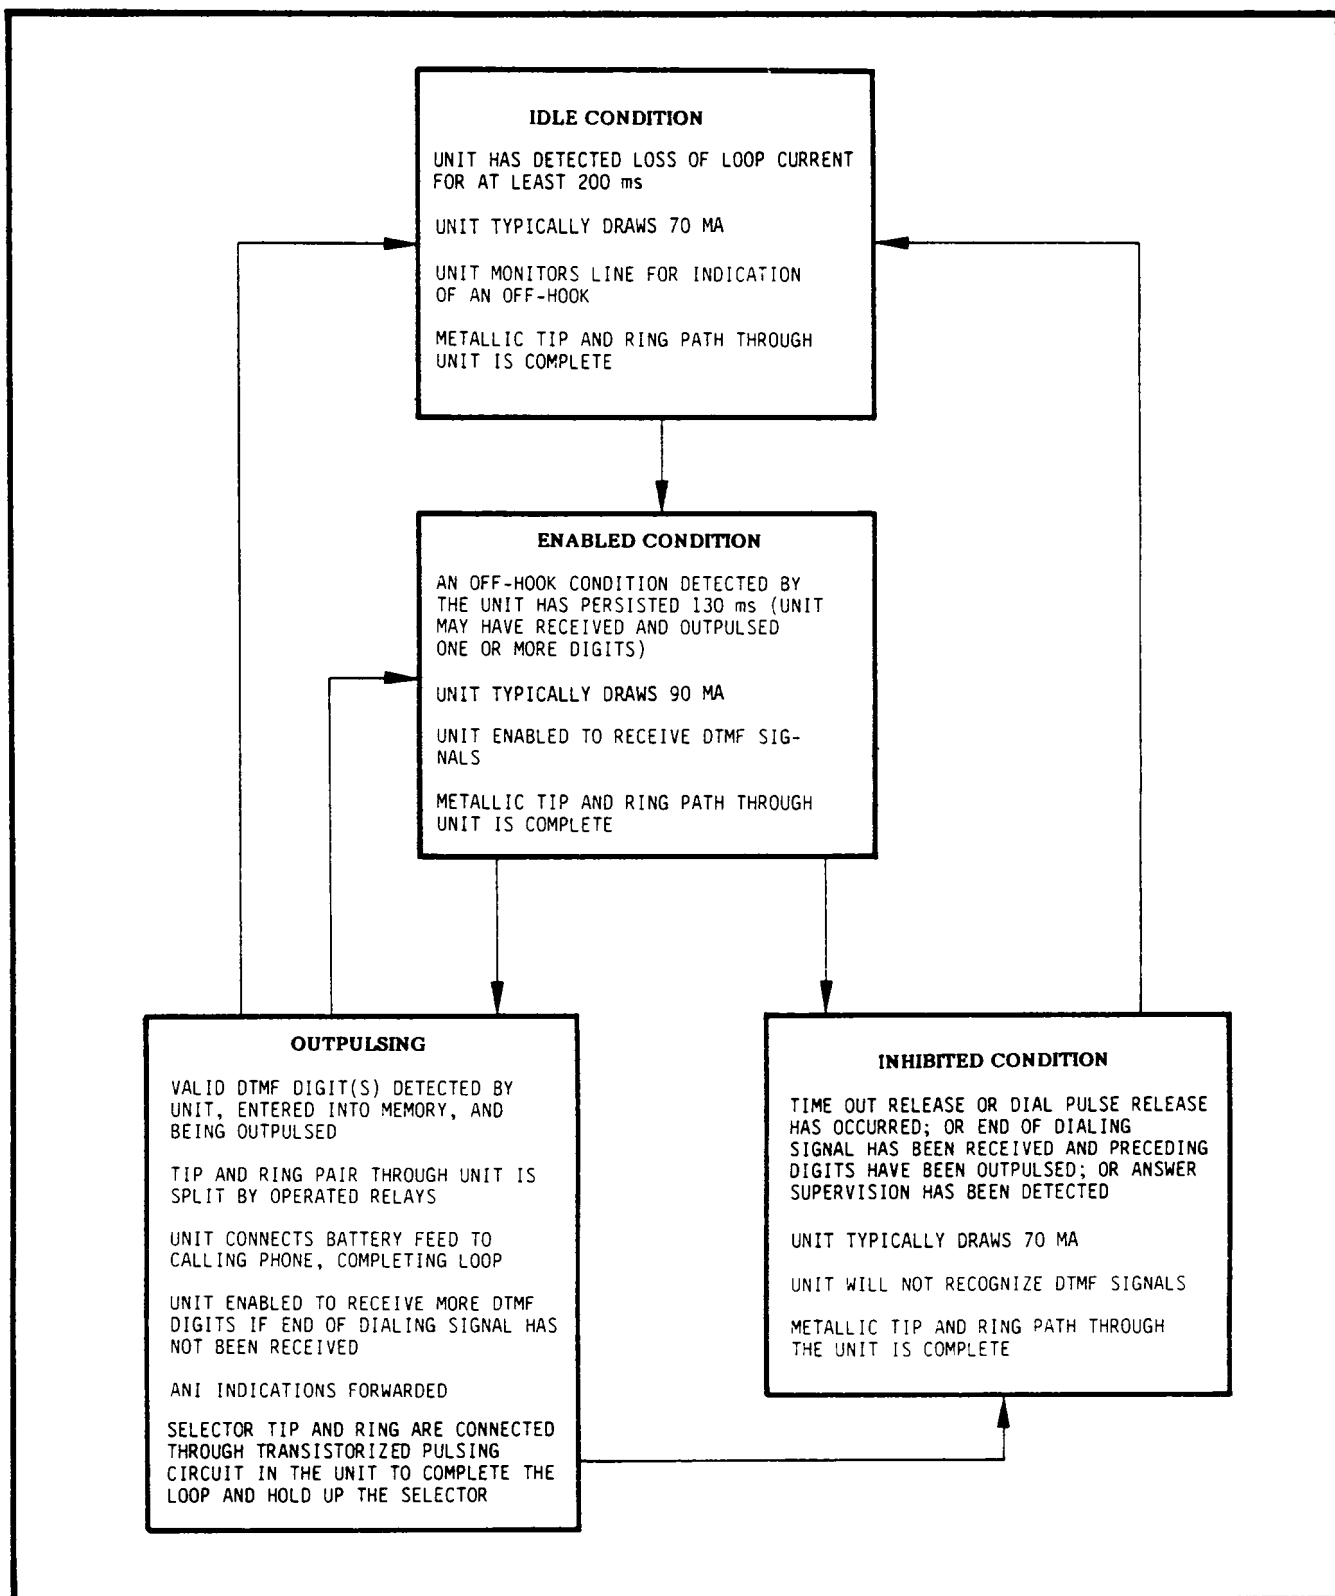

Figure 5 State Diagram
5.04 (See Figure 5.) Once enabled the M-164-71 remains enabled until on-hook unless it is inhibited by the End of Dialing Release, the Time-Out Release, or the Answer Supervision Release. Once inhibited, the unit can be enabled again only after recognizing an on-hook condition.